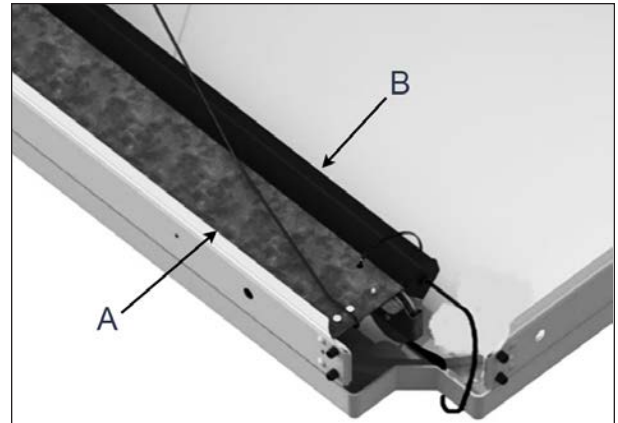
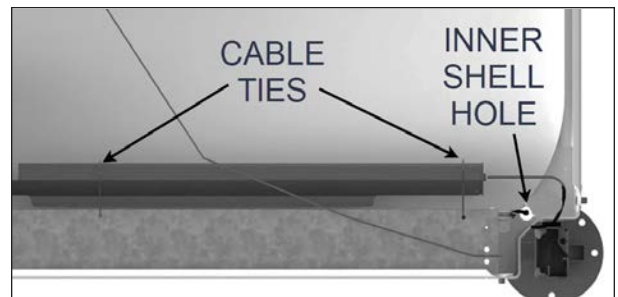

FIGURE 52: CABLE TIE REMOVAL
FIGURE 53: CABLE TIE LOCATIONS
4. While holding the outer shell open, cut and remove the two cable ties that hold the wire guard see Figure 52 and Figure 53.
Ensure the wire is clear of the inner and outer shells before proceeding. The wire should only hang from the inner shell hole see Figure 53.